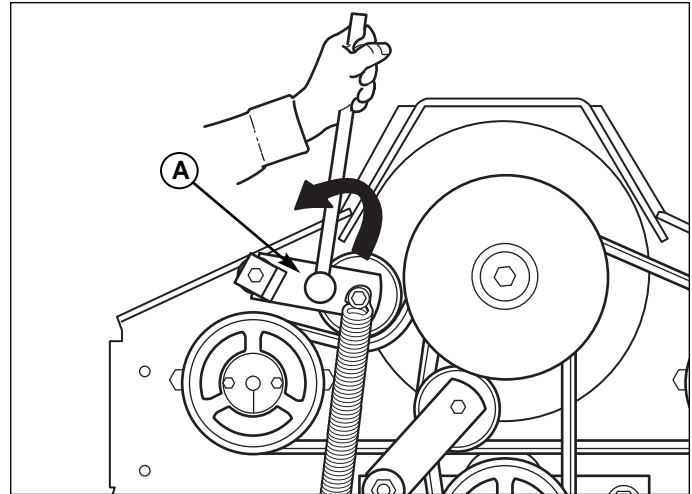

Figure 53. Pump Belt Removal & Replacement
3. Using a 1/2" breaker bar, place the square end in the square hole located in the middle of the idler arm (A, Figures 53). Carefully rotate the breaker bar counter-clockwise, which will relieve the tension on the belts exerted from the idler arm.
2. Carefully rotate the idler arm with the breaker bar counter-clockwise (see Figure 53) and wrap the belts around the bottom side of the idler arm pulley and place the belts in the left-hand pump pulley grooves.